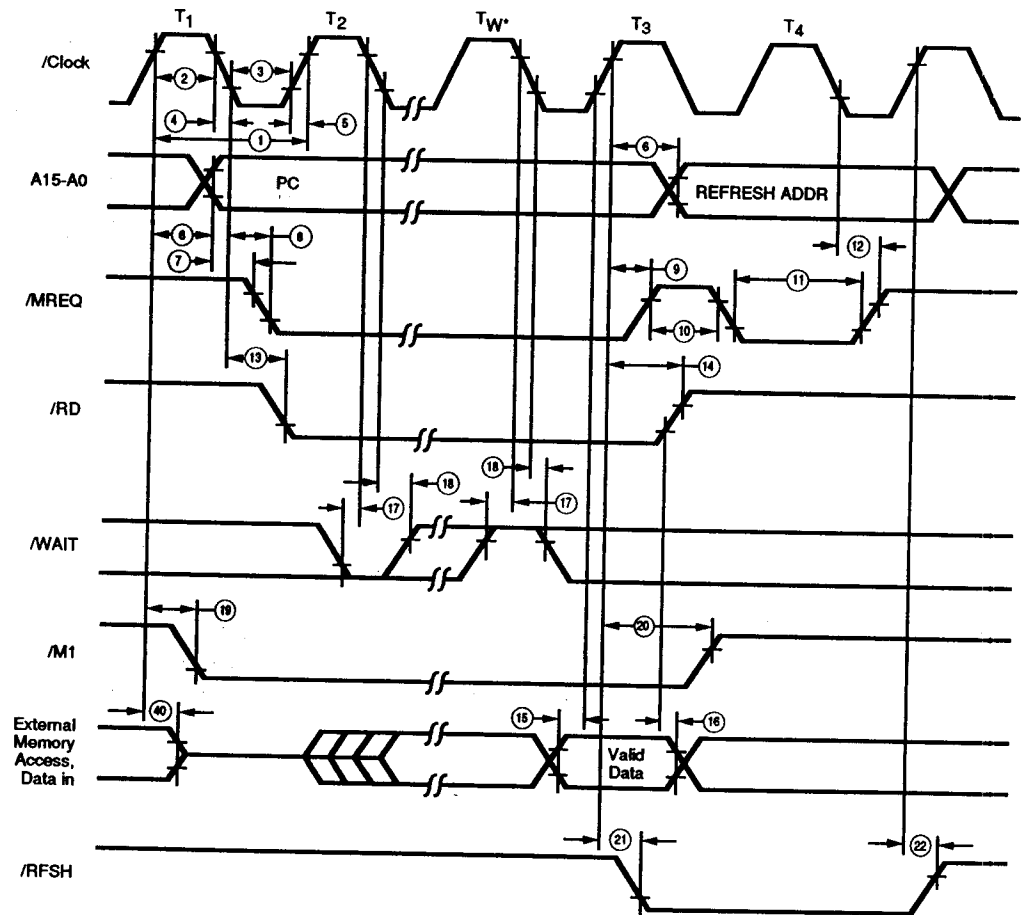
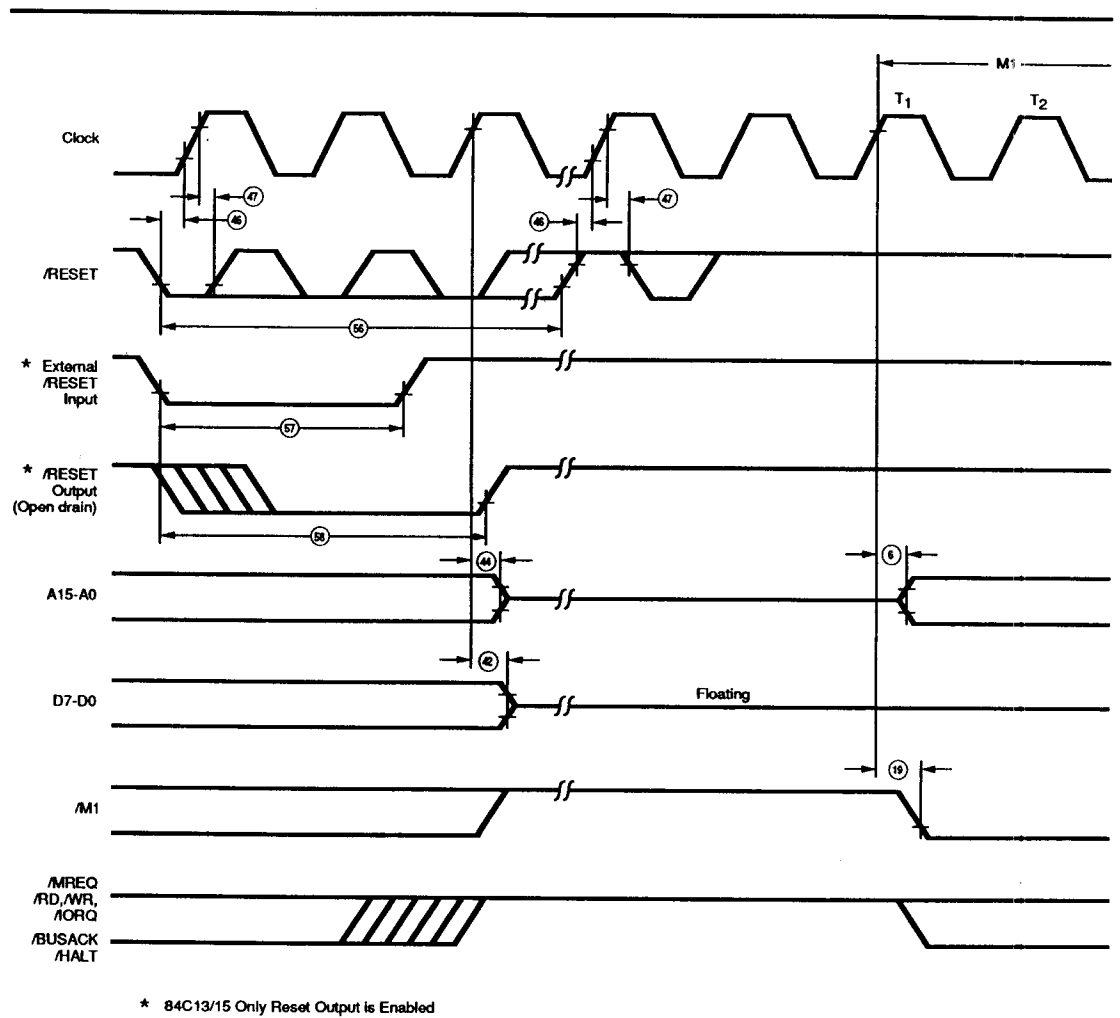

**Figure 41. Instruction Op-code Fetch**
Figure 48. Reset Cycle
Parameters referenced in Figure 41 through Figure 48 appear in Table A.
**Instruction Op-code Fetch.** The CPU places the contents of the Program Counter (PC) on the address bus at the start of the cycle (Figure 41). Approximately one-half clock cycle later, /MREQ goes active. When active, /RD indicates that the memory data can be enabled onto the CPU data bus.
Once /RESET goes inactive, two internal T cycles are consumed before the CPU resumes normal processing operation. /RESET clears the PC register, so the first op-code fetch location is 0000H (Figure 48).